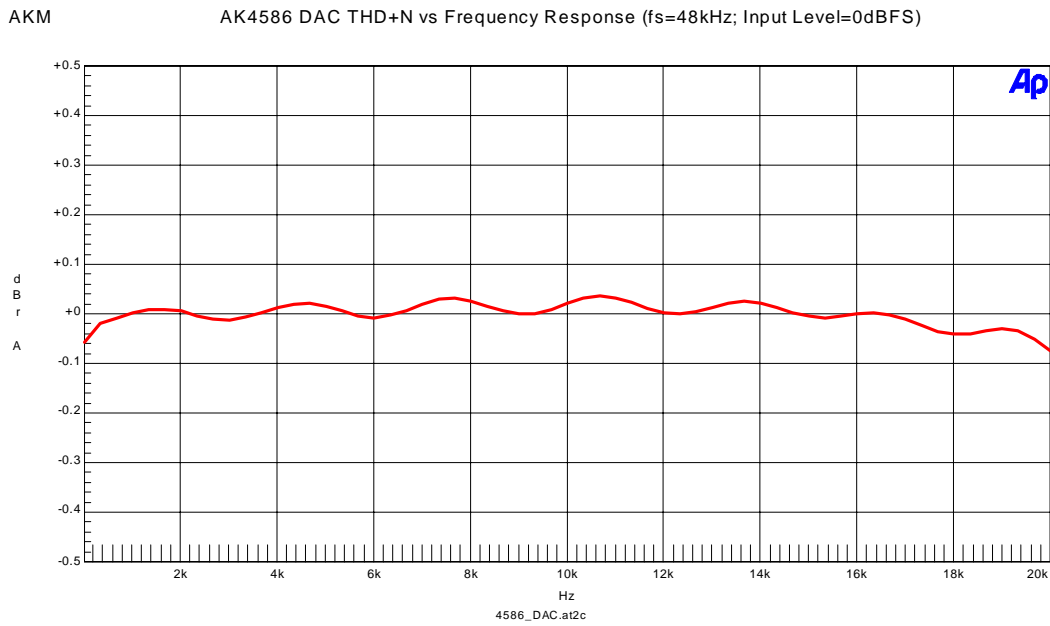

Figure 3-8. Frequency Response (Input Level=0dBFS)
- Figure 3-8. Frequency Response (Input Level=0dBFS)